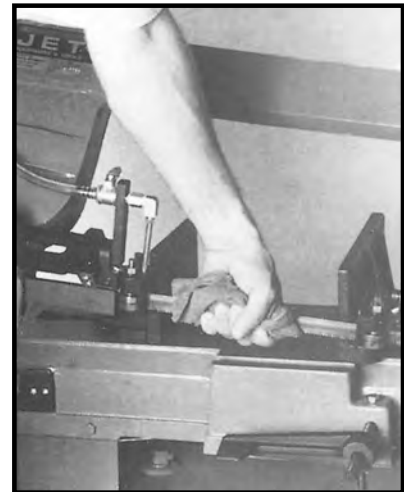

Fig. 15
4. Turn nut (B) to adjust eccentric bearing snug to the blade. Blade should still move up and down freely when grasped as in Fig.15 .